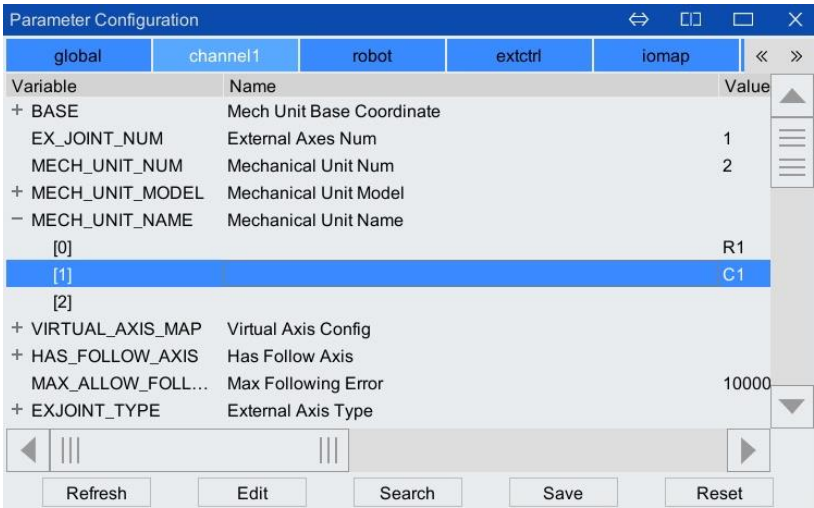

Figure 6-10 Mechanical unit name [MECH_UNIT_NAME] parameter configuration interface
Step1. Select [System/Parameter Configuration/Channel] in the upper right corner of the teach pendant main interface, click [+] on the left side of the [MECH_UNIT_NAME] parameter, and check that the values of sub-items [1] and [2] in the expanded sub-items are " R1" and "C1". As shown in Figure 6-10.